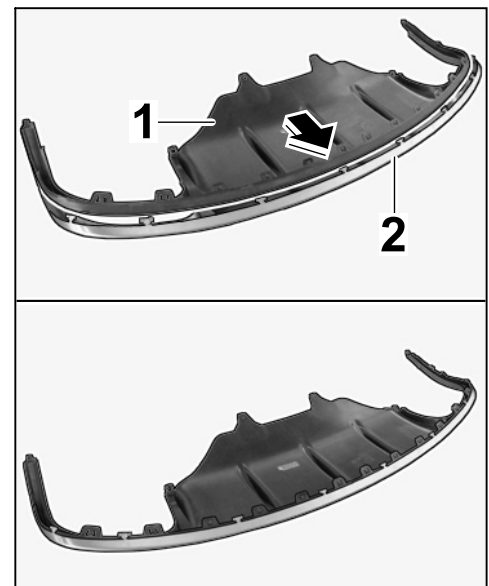

Figure 6
- 3.6 Position standard rear panel ⇒ *Figure 6-1*- in the stainless steel rear panel ⇒ *Figure 6-2*- (⇒ *Figure 6-Arrow*-) (installation position).